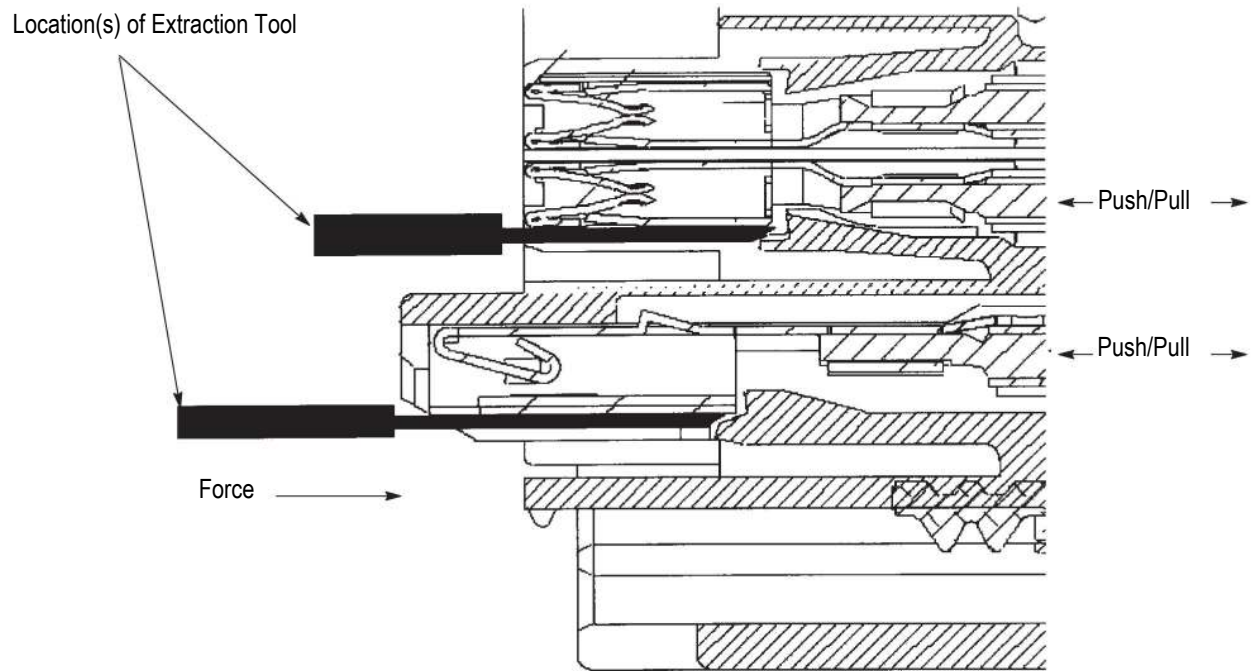

Figure 14
5. Insert Removal Tool 1393477-6 into the mating face of the harness -- in the cavity to be reworked. Be sure the tool is located between the terminal and the terminal latch as shown in Figure 14.